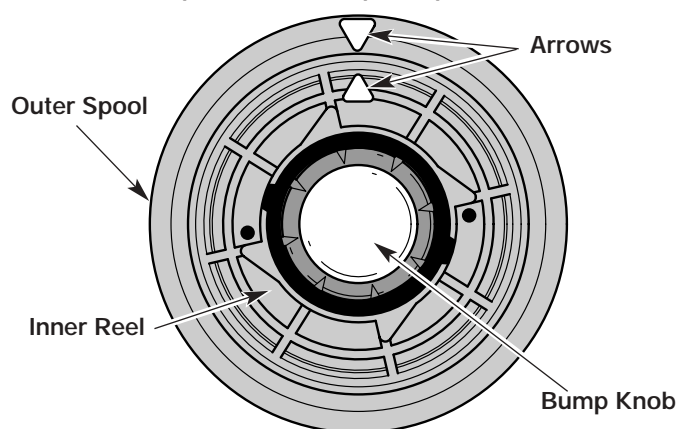

Fig. 41
2. Hold the outer spool and turn the inner reel counterclockwise to line up the arrows on the outer spool and inner reel (Fig. 41).